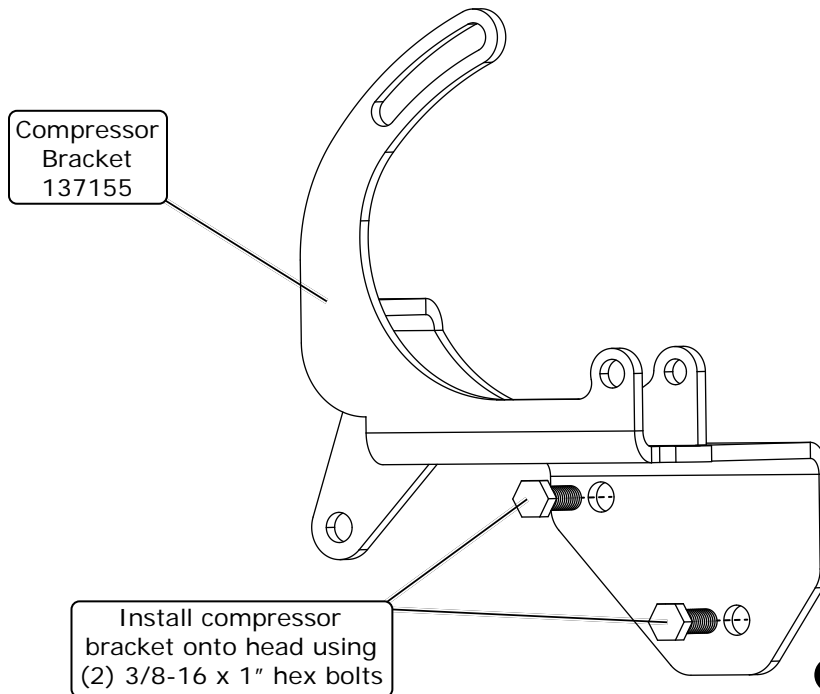

Figure 1
3. Install the compressor bracket onto the head using (2) 3/8-16 x 1" hex bolts (See Figure 1, below). Leave loose.
5. Tighten all (3) bolts.